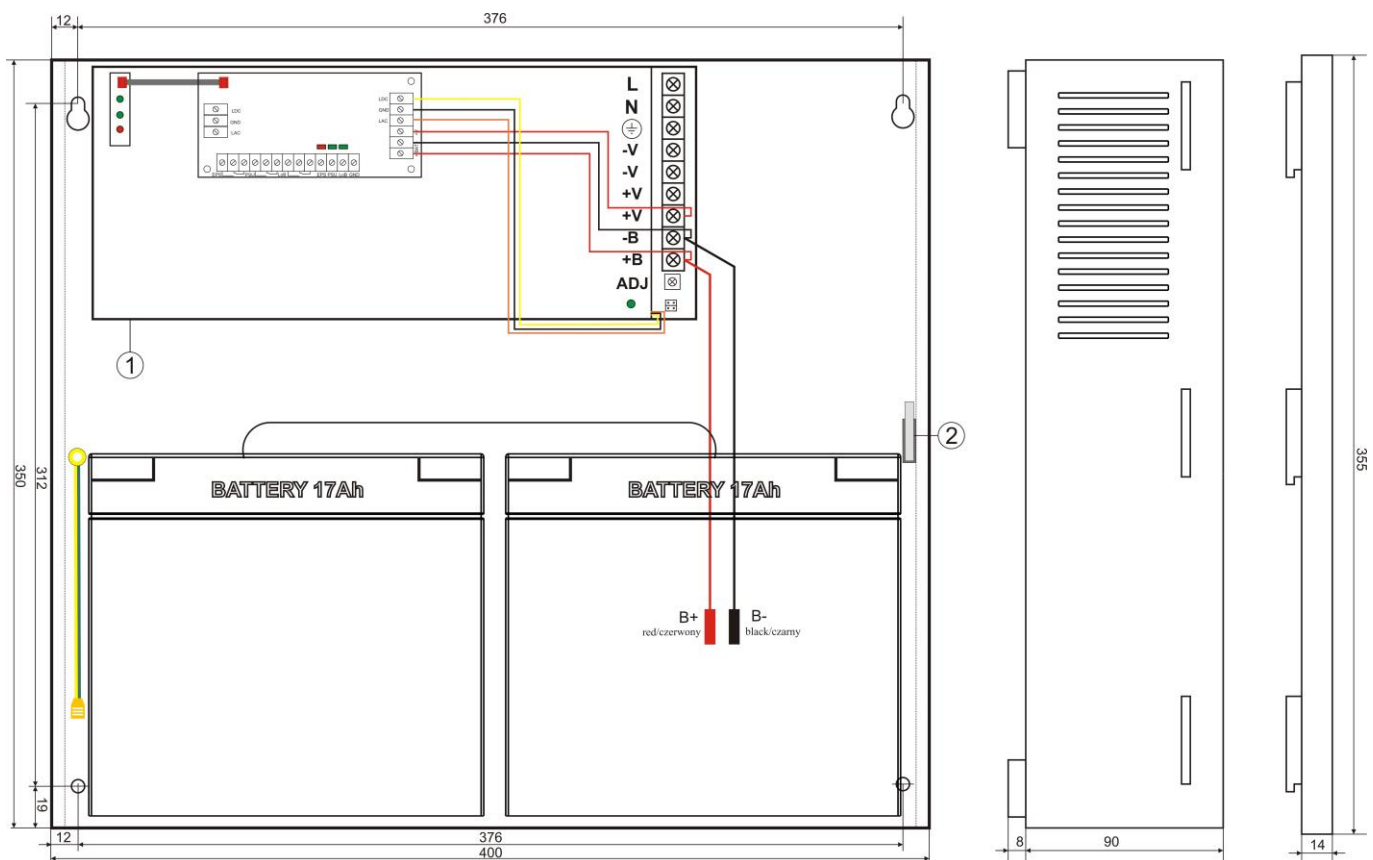

Fig.3. The view of the PSU.
**Description of PSU components and connectors (tab.2, fig.3).**
Element no. [Fig. 3]	Description